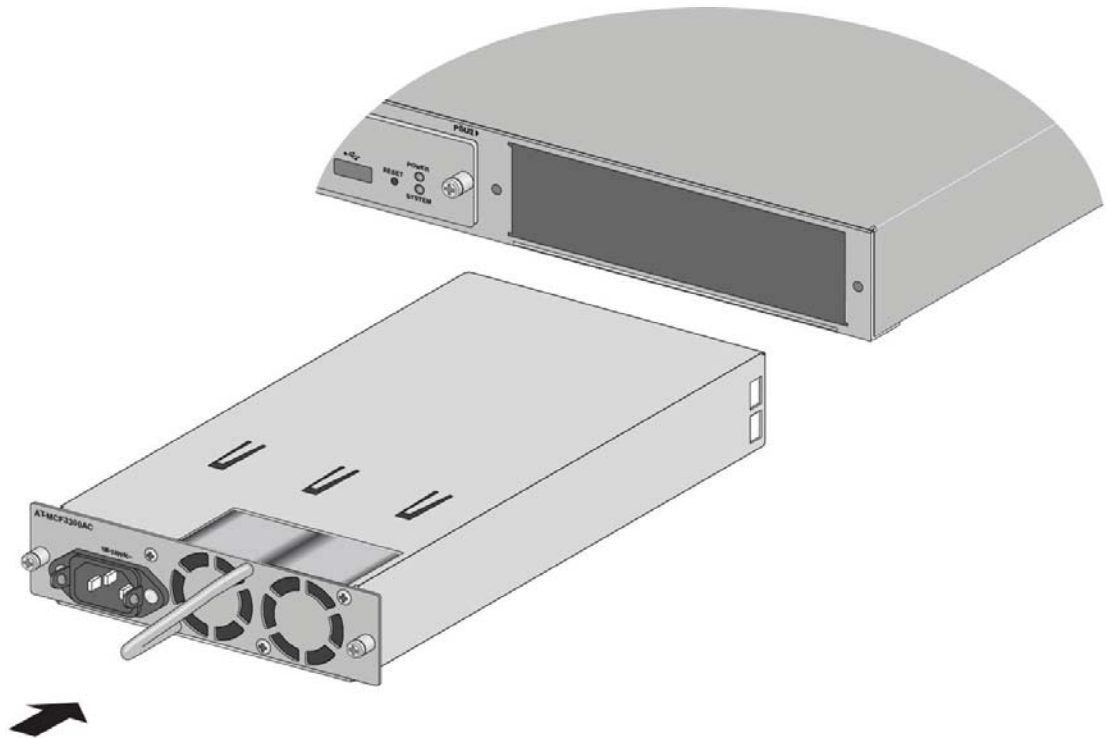

Figure 36. Positioning the MCF3300AC Power Supply
4. Position the power supply as shown in Figure 36 and slide it into the slot until it makes contact with the connector inside the chassis.